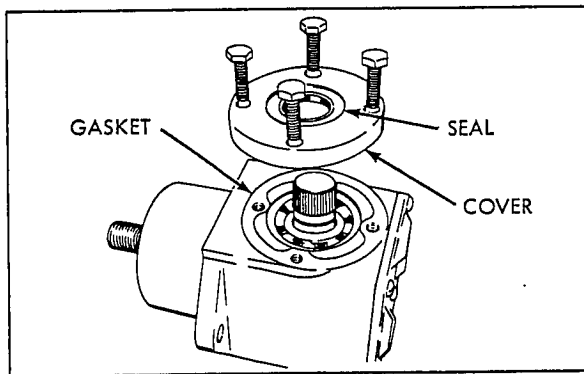

Figure 9-7 Input Shaft Seal Replacement
Leaking lubricant: Correct lubricant leakage by replacing the seals at the input (Figure 9-7) and output (Figure 9-7) shaft as described below.
1. Input shaft seal replacement: (Figure 9-7). Remove four screws and the cover. Replace the seal by driving in squarely so that it is .040" to .050" below flush. Use tool 670185 to protect the seal when replacing the cover and seal assembly over the input shaft. Place the seal sleeve on the shaft and coat with oil. Slide the sealed retainer over the sleeve. Tighten the seal retainer screws and remove the sleeve.